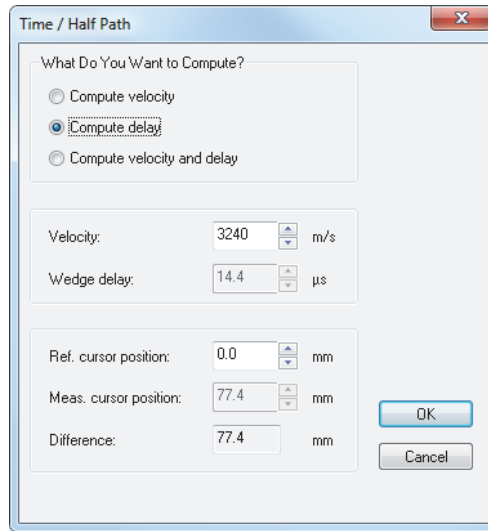

Figure 4-26 Calibrating with the Time / Half Path dialog box
7. In the **Time / Half Path** dialog box that appears (Figure 4-26 on page 122), proceed as follows: